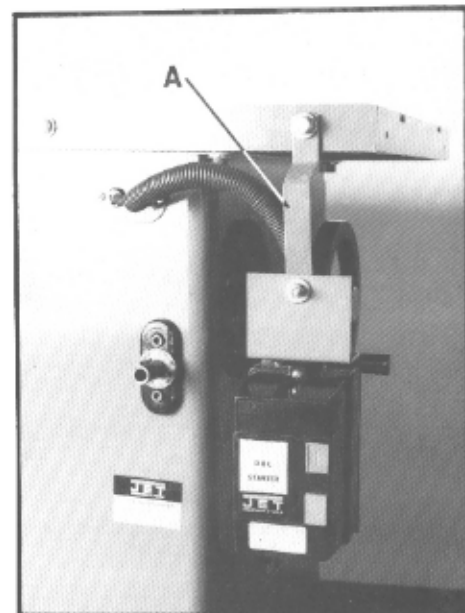

Fig. 3
1. Remove shipping bracket (A, Fig. 3) holding switch assembly to table. Do **not** discard the hardware.